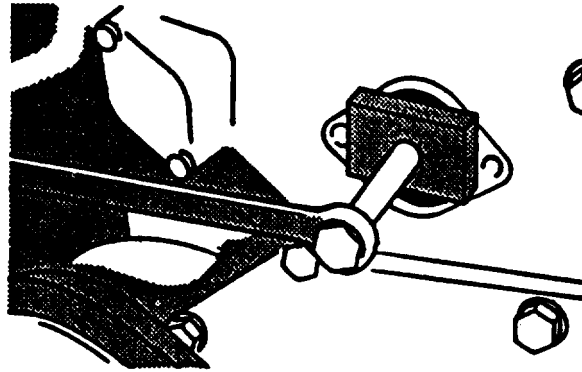

FIGURE 3-44. Separating Gear and Shaft
- k. Install injection pump drive gear puller (JDG670) to injection pump gear and shaft. Follow mounting instructions provided with tool set, refer to FIGURE 3-44.